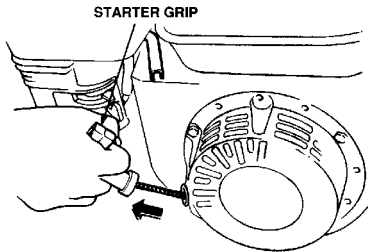

Figure 11. Starter Grip
1. Grasp the starter grip (Figure 11) and slowly pull it out. The resistance becomes the hardest at a certain position, corresponding to the compression point. Pull the starter grip briskly and smoothly for starting.